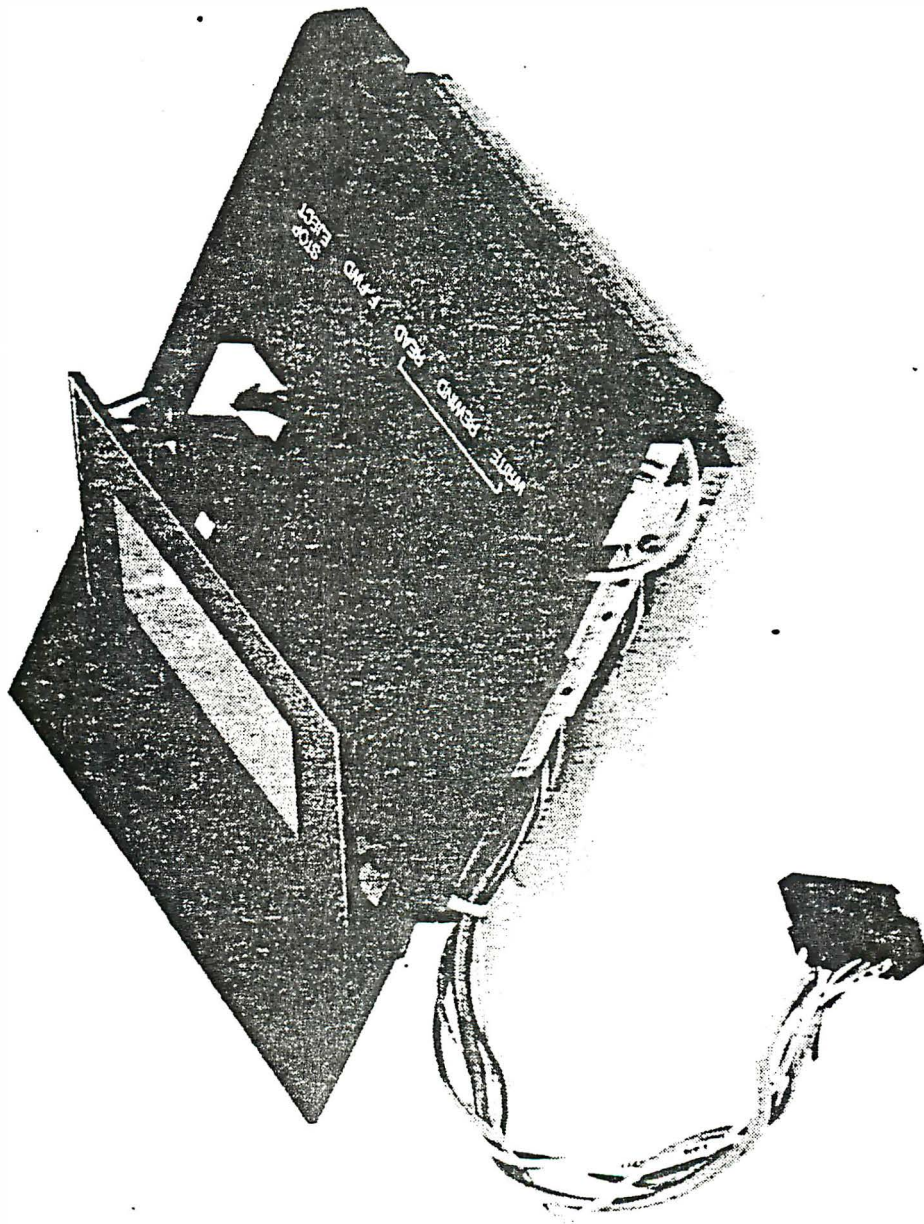

FIGURE 8--Cassette Transport Sub-assembly
7. Cassette sub-assembly (Figure 8)
(See Figure 8.)